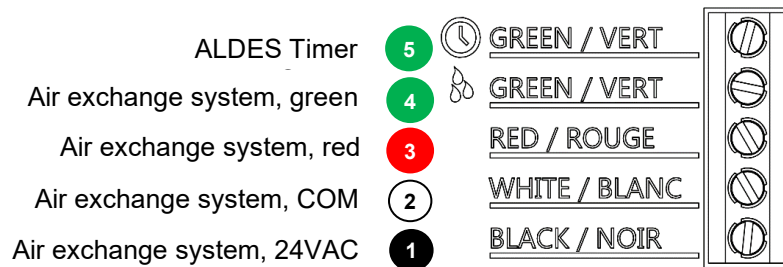

Figure 2
5. Strip 7 mm (1/4") of each wire's sheath. Using the screwdriver and Figure 2, connect each wire to the control;